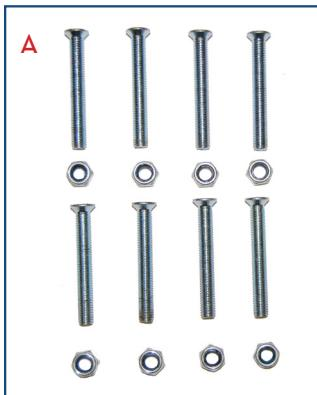

figure 1
2. Using screws and nuts marked “A” attach footrest to arm frame by inserting screw from the outside of frame. Secure using one of the nuts. Tighten using a phillips head screwdriver and wrench. Be sure that the front of the armrest corresponds to the front of the footrest (Figure 1).
3. Attach seat frame to arm frame using screws and bolts marked “A”. Tighten using a phillips head screwdriver and wrench. (Figure 1).